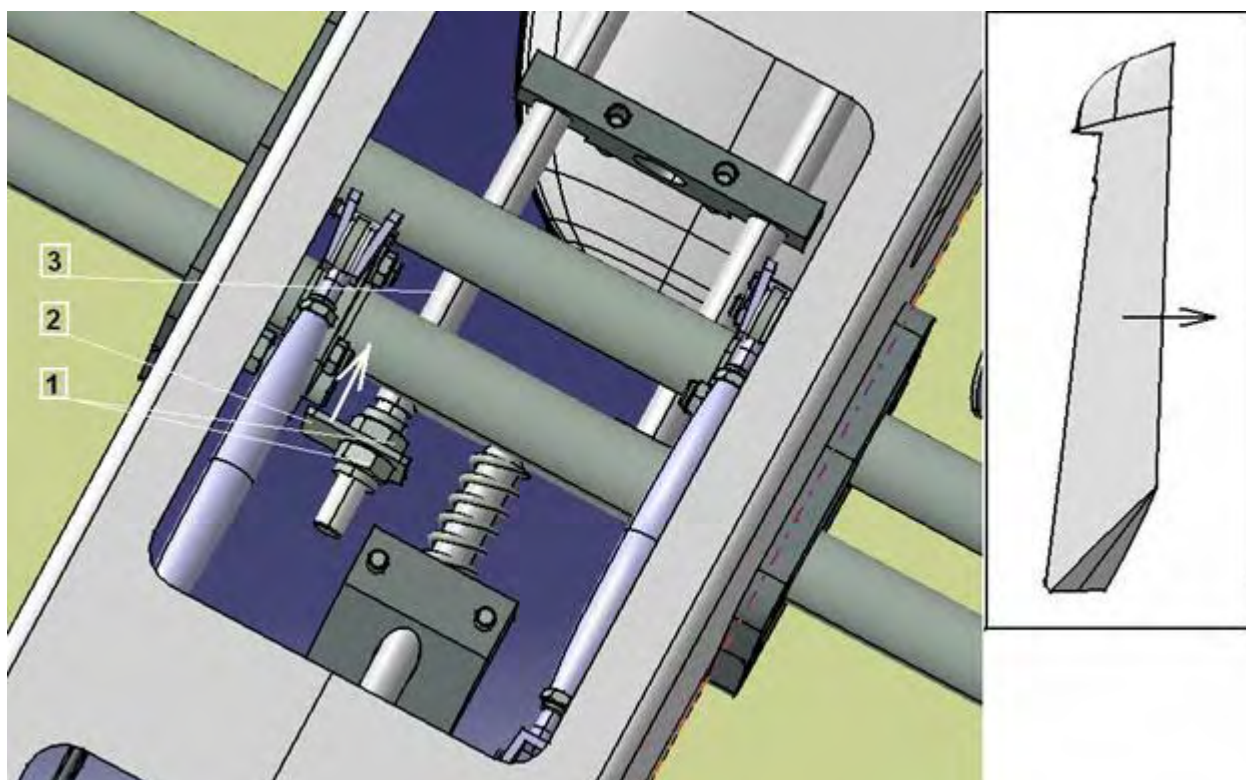

Fig. 7
- 5) Shifting rudder neutral position to the right can be done in the same way as shifting rudder neutral position to the left, but the stop plate KA6050206 (2) has to be moved away from the engine (Fig.7).